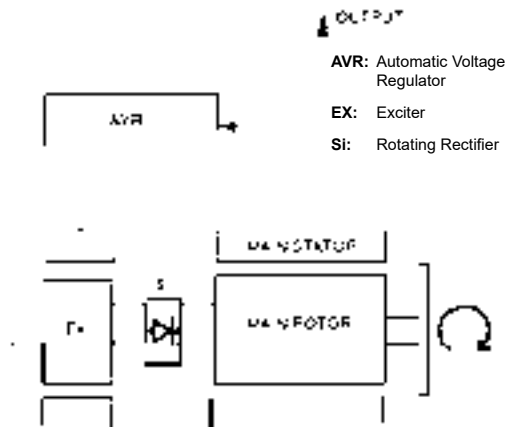

Figure 2: LX-E Block Diagram
The excitation system of the LX-E Series generator uses an Automatic Voltage Regulator (AVR) which uses a portion of the output power to supply controlled DC power to the exciter field (EX) as show in Figure 2. When DC power is supplied to the exciter field, output from the exciter armature is rectified by a 3-phase bridge rotary rectifier (Si) and supplied to the main field coils. See Figure 2.